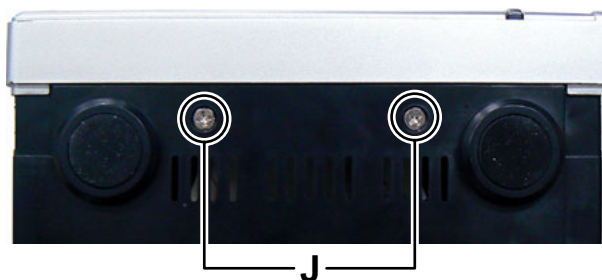

Fig.12
### 3.1.5 Removing the Front panel (See Fig.12, 13, 14)
- (1) Remove the two screws **J** attaching the Front panel. (See Fig.12)